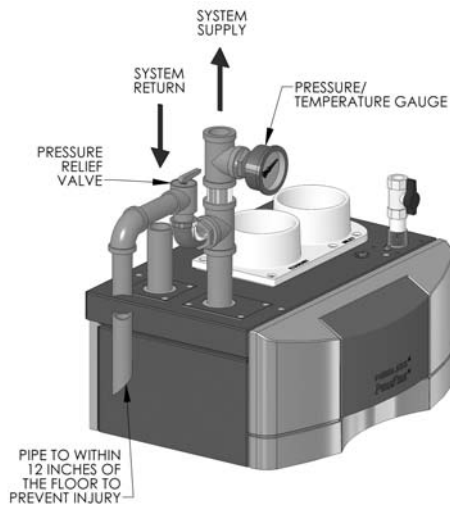

Figure 4.2: Relief Valve Installation – PF-50, PF-80, PF-110 & PF-140
1. *Pressure/Temperature Gauge*: A combination pressure/temperature gauge is provided with each *PUREFIRE*® boiler to be mounted in the piping from the boiler supply to the system as shown in Figure 4.2 & 4.3. Most local codes require this gauge.
The valve is to be installed as shown in Figures 4.2 or 4.3. Pipe the discharge of the relief valve to within 12" of the floor and close to a floor drain.